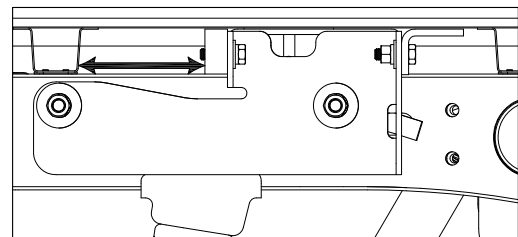

FIGURE D1: Passenger side of truck frame inside the wheel well.
- 2. Square the hitch.** With a tape measure, check the distance between the Turnoverball hitch and the nearest bed crossmember. The distance between the hitch and the crossmember should be consistent on the passenger side and the driver side of the hitch, see figure D1. Adjust hitch until the hitch and the bed crossmember are the same from side to side.